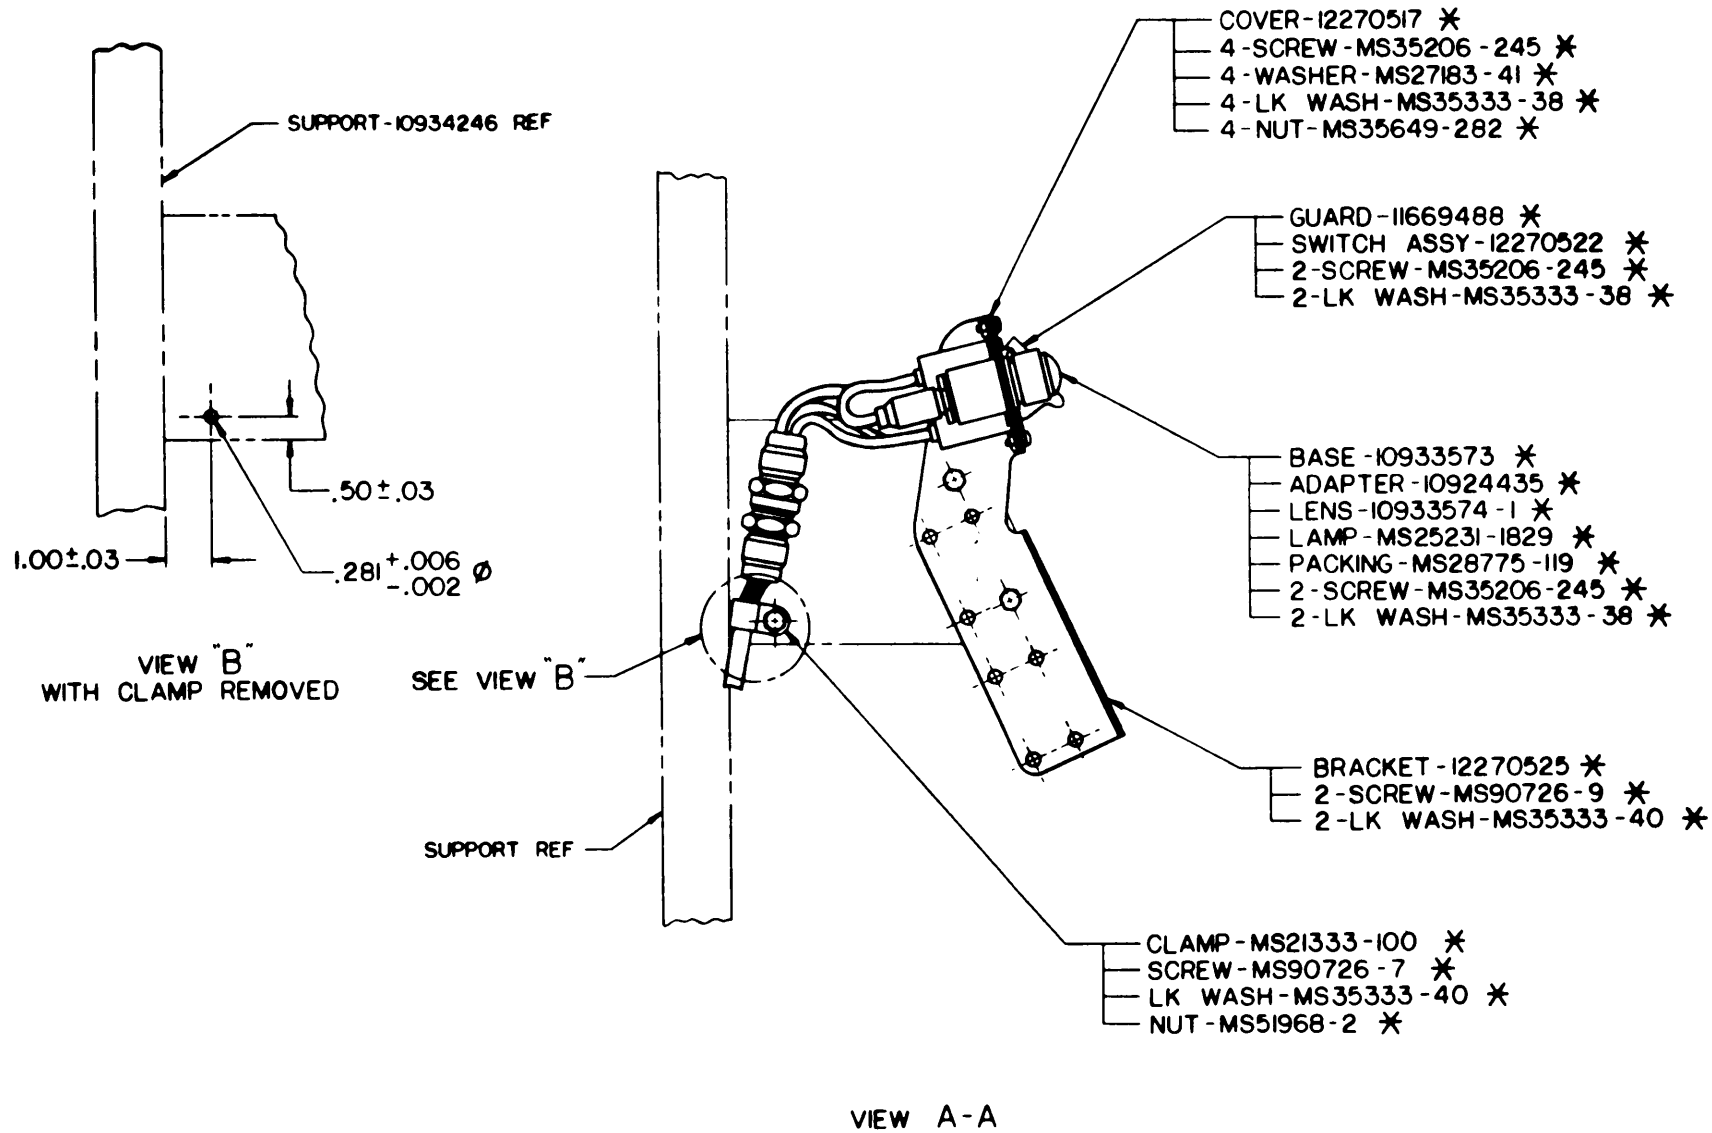

Figure 54. Expanded View of Switch Assembly Mounting to Master Control Panel and Clamp Hole Location for M60A1 AVLB and M48A5 AVLB
Figure 54 is common to both.
(2) Remove and discard two screws MS90726-6 and two lockwashers MS35338-44 from the left side of the master control panel. Then install the previously assembled switch bracket assembly to the master control panel using two screws MS90726-9 and two lock washers MS35333-40 (refer to figure 54).
- (3) Drill one hole in support 10934246 as shown in figure 54.
(4) Connect the kit wiring harness switch receptacle to the switch connector and secure the harness with one clamp MS21333-100, screw MS90726-7, lockwasher MS35333-40, and nut MS51968-2 to the support 10934246 (refer to figure 54).